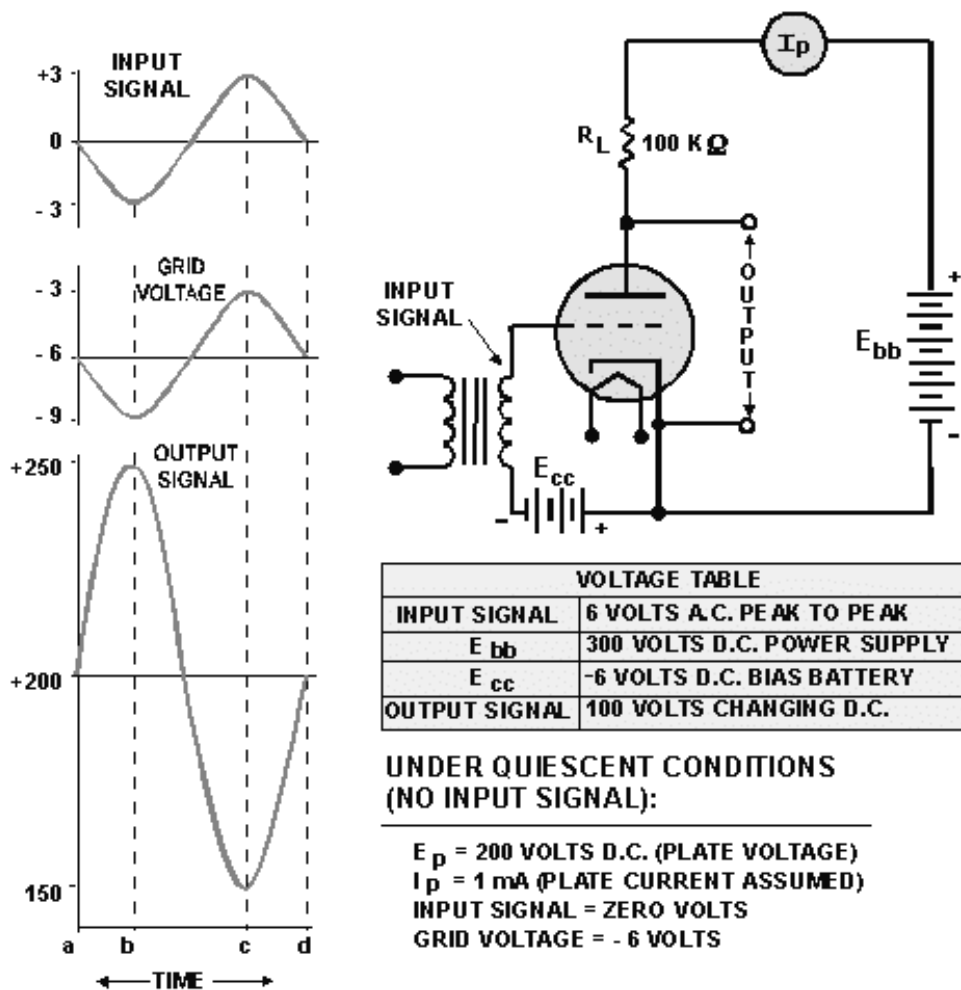

Figure 1-19.—Triode operation.
The circuit in figure 1-19 brings together all of the essential components of a triode amplifier. Before analyzing the circuit, however, we need to define the term **QUIESCENT**.
Simply, quiescent describes circuit conditions when the tube is not amplifying. The tube has no output signal and is in a kind of standby, waiting condition. Now let's go on to figure 1-19. With no input signal, under quiescent conditions, assume that 1 milliampere of current flows through the tube, cathode to plate. This current ( $I_p$ ) will flow through  $R_L$  (load resistor) to the positive terminal of the battery. The current flowing through  $R_L$  causes a voltage drop ( $IR$ ) across  $R_L$  equal to:
These values are shown on the waveforms as time a in figure 1-19.
Before going on to the next section, there is one more thing of which you should be aware. Look again at the waveforms of figure 1-19. Notice that the output voltage of the amplifier is 180° out of phase with the input voltage. You will find that this polarity inversion is a characteristic of any amplifier in which the output is taken between the cathode and the plate. This is normal and should not confuse you when you troubleshoot or work with this type of circuit.
- Q18. A triode amplifier similar to the one shown in figure 1-19 has an  $E_{bb}$  -350 volts dc. The plate-load resistor is 50 k $\Omega$ . Under quiescent conditions, 1.5 milliamperes of current conducts through the tube. What will be the plate voltage ( $E_p$ ) under quiescent conditions?*